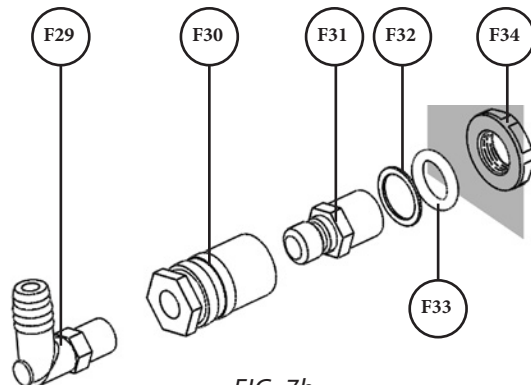

FIG. 7b
Install Bag Hold Down Kit into pre drilled hole located on the Drum (D) [FIG. 7b].